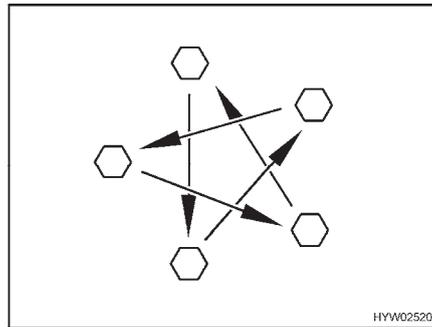

Fig. 171 Tighten the wheel nuts or wheel bolts cross-wise
- Check regularly that the wheel nuts or wheel bolts are firmly seated. Re-tighten the wheel nuts or wheel bolts of a changed wheel cross-wise (Fig. 171) after 50 km (30 miles).